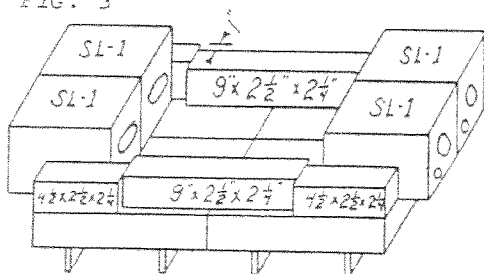

FIG. 4
5. Dip liner (SL-1) at ends, bottom back side and adjoining sides in mortar. Set in place on burner tips (Fig. 4). Be sure to clear burner tunnels and burner tip of any mortar. Using dip joints, set balance of brick in Fig. 4 in place.